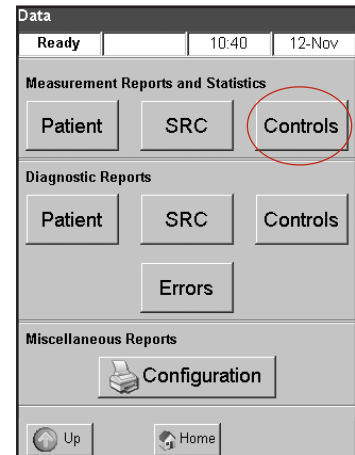

Figure E-4: Data screen
2. In the Measurement Reports/Statistics section, tap **Controls** (Figure E-4).